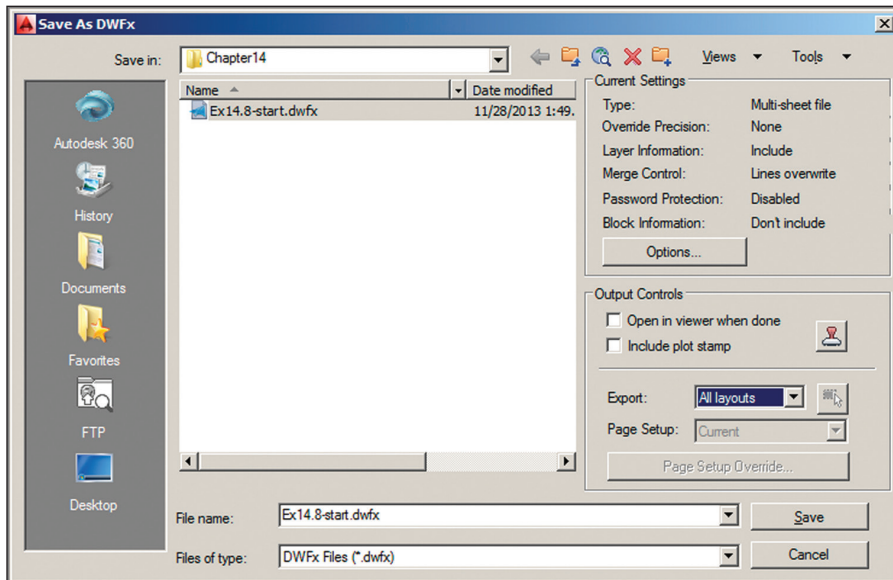

FIGURE 14.23 Save As DWFx
2. Select All Layouts from the Export drop-down menu in the Save As DWFx dialog box (see Figure 14.23). Click Save.